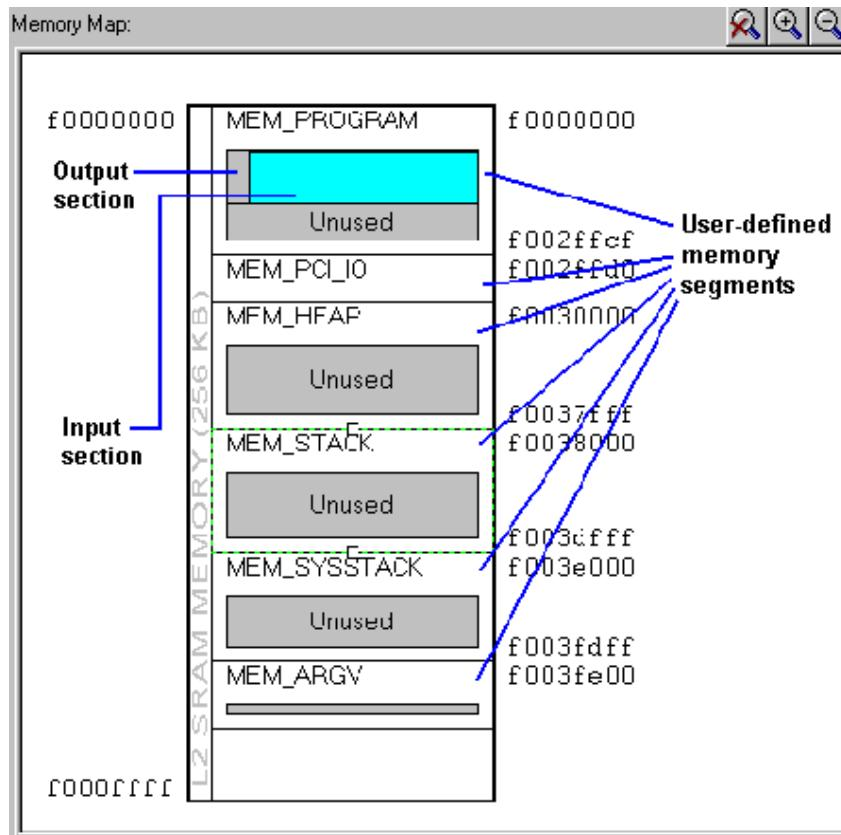
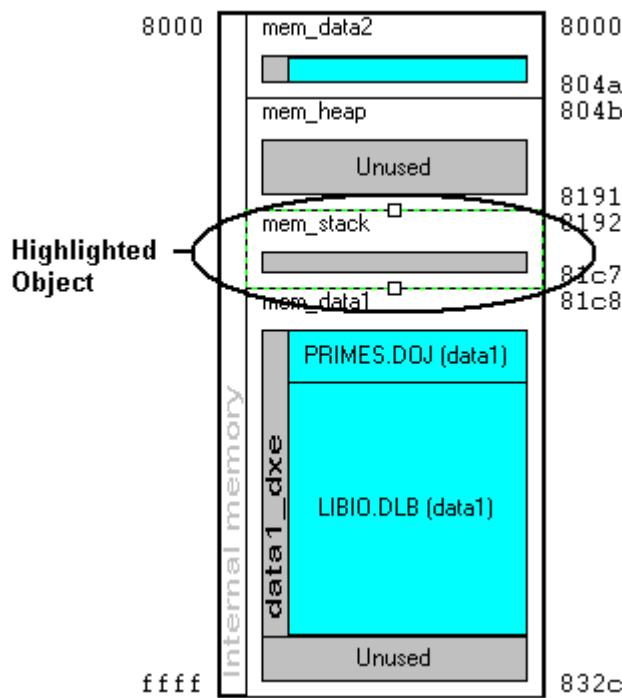

Figure 4-18. Graphical Memory Map Representation
Figure 4-22. A Highlighted Memory Segment in the Memory Map
- **Graphical Memory Map** – Displays the memory map in graphical blocks (see Figure 4-18 on page 4-26)
View the memory map from two perspectives: pre-link view and post-link view (see “Specifying Pre- and Post-Link Memory Map View” on page 4-31). Figure 4-18 through Figure 4-22 show examples of graphical memory map representations.
- i** When an object is selected in the memory map, it is highlighted as shown in Figure 4-22 on page 4-30. If you move the mouse pointer over an object in the graphical memory map, a yellow tooltip displays the information about the object (such as name, address, and size).